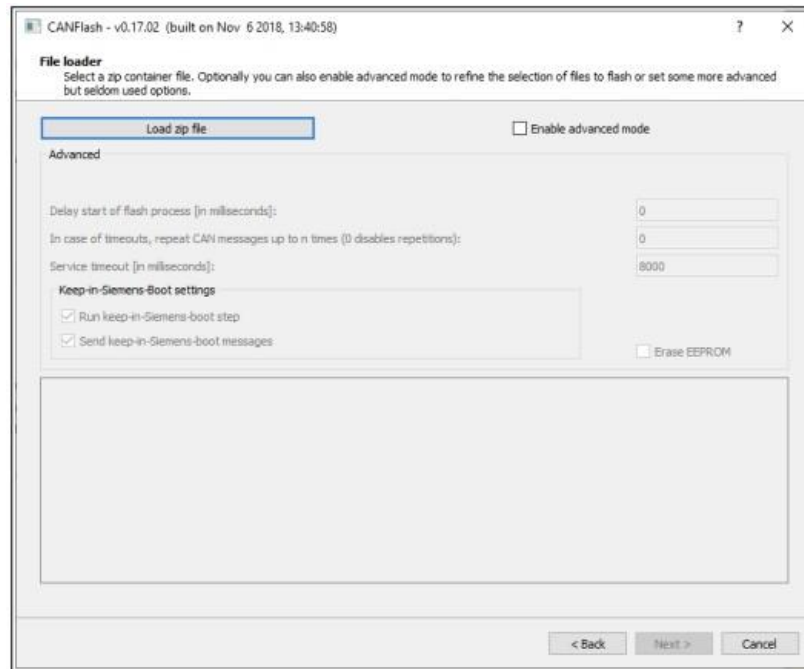

Figure 4: Load zip file in CANFlash
19. Click **Load zip file**. Select zip file CUV2\_IMP\_NFL\_XE40\_STD\_1DB2016\_X4S05526059 (see figure 4 below). **Ensure this file is located in the Downloads folder.** Click **Next** when complete.